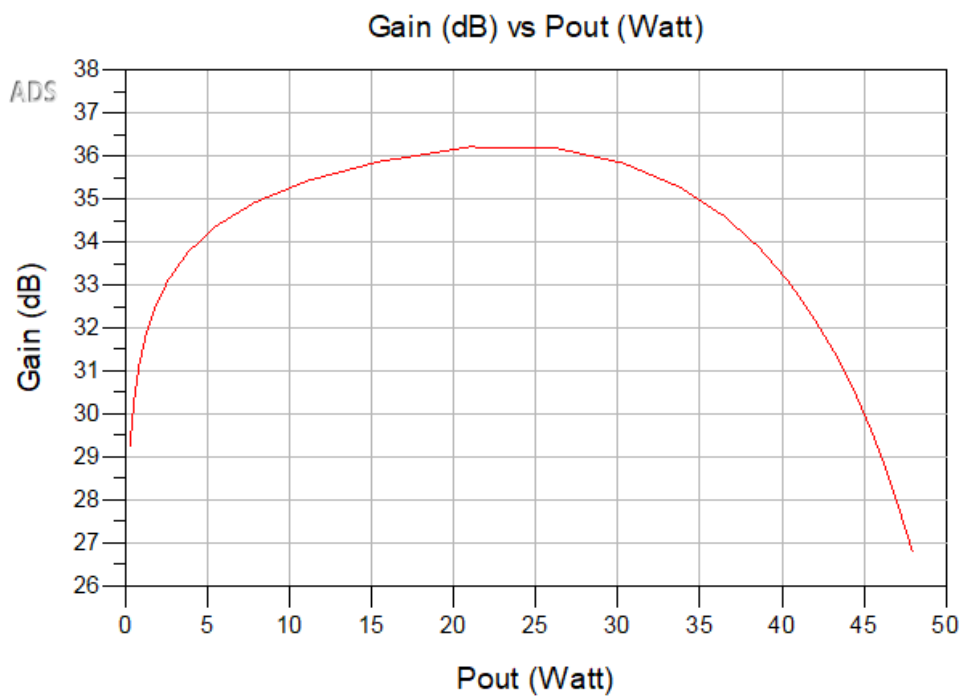

Figure 4 Simulated Gain vs Output Power
- Figure 4 Simulated Gain vs Output Power 5